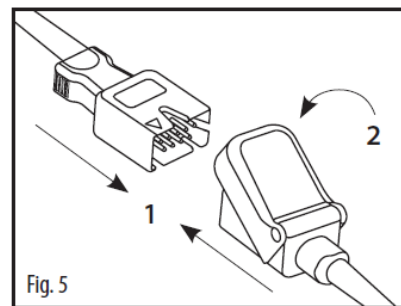

Fig. 27 Connecting LNC Patient Cable to LNCS Sensor
See Fig. 5 in Fig. 27. Insert the sensor connector completely into the patient cable connector (1). Completely close the protective cover (2).